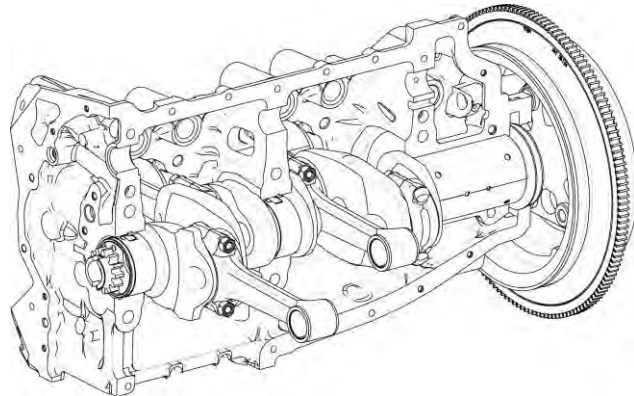

Figure 68
- (2) Install the front bearing halves, where they touch (butt together) around the crankshaft.
- (3) Lift the crankshaft assembly by the connecting rods. Lower the crankshaft assembly into the crankcase half (Figure 68). Let the connecting rods extend through the bored holes (for the cylinders).
- (4) With the crankshaft assembly in the crankcase, align the dowel holes in the front bearing halves with the dowels in the crankcase.
- (5) Make sure the front bearings are seated squarely over the locating dowels on the crankcase.